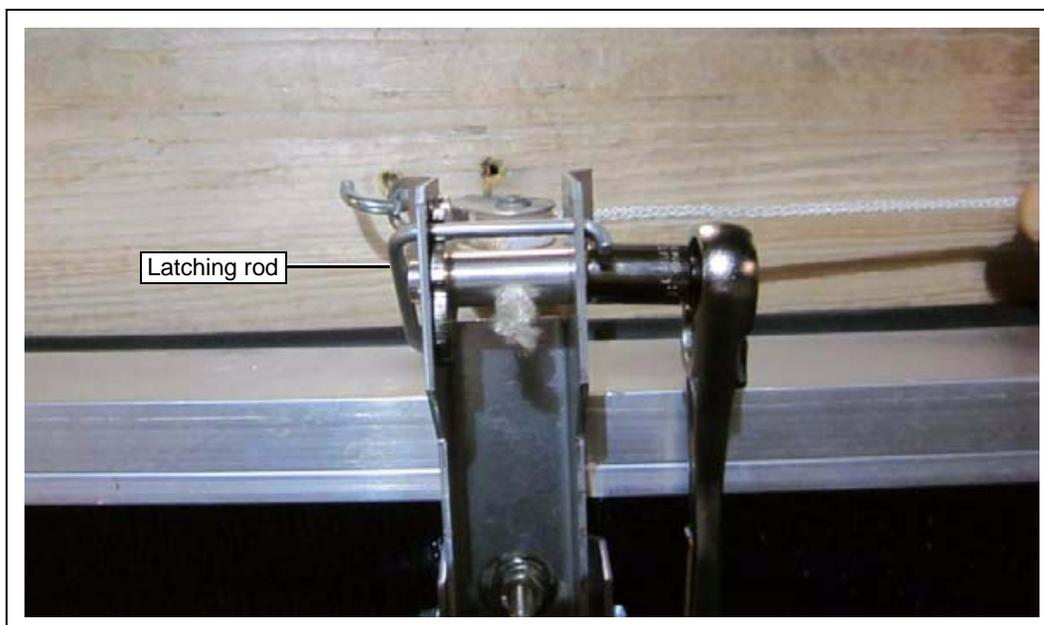

Figure 3R
6. **Ensure the latching rod is not obstructed-free to slide up and down.** (See Figure 3R.)